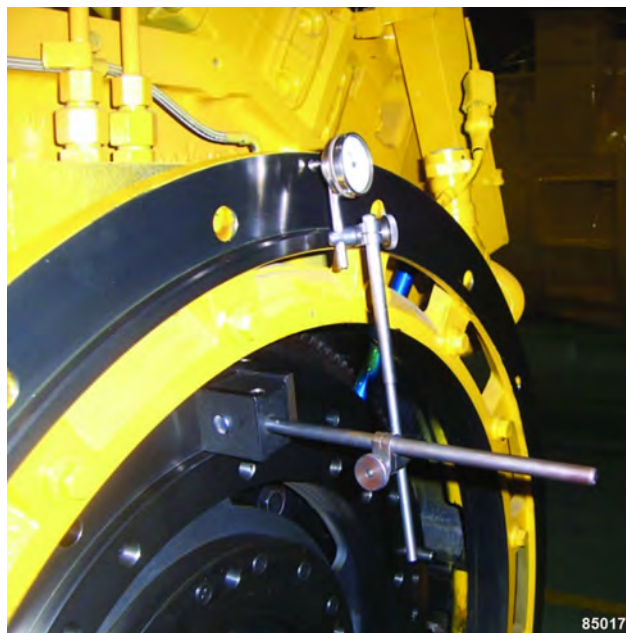

FIGURE 4-4. DIAL INDICATOR SETUP
2. Locate the dial indicator base on the machined face of the flywheel/flexplate and zero the probe on the face of the flywheel housing adapter. See Figure 4-4.